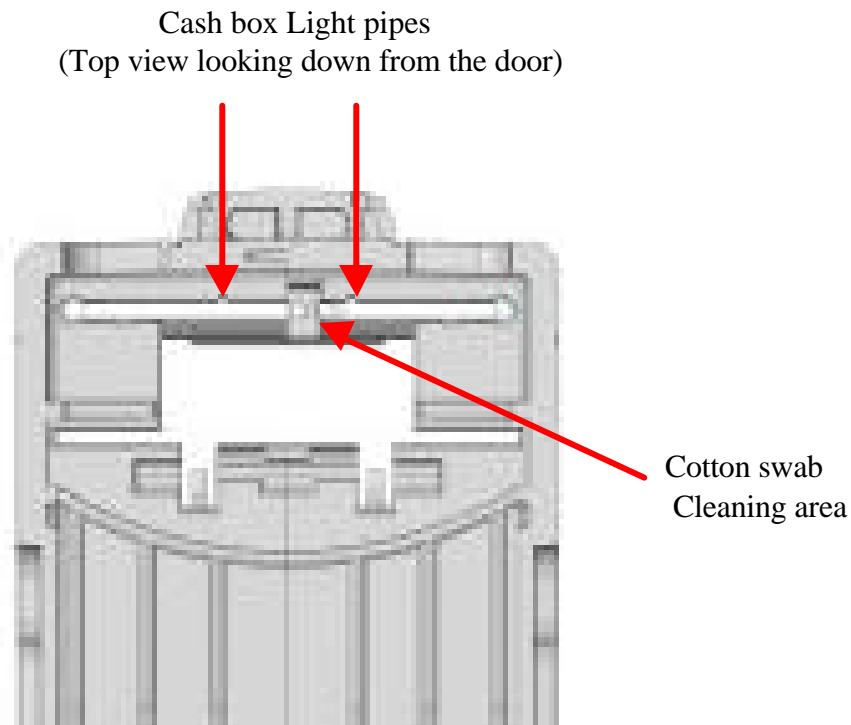

Fig.6
- Inspect the light pipes making sure that the light pipes line up and are forming for the most part a straight line. (see fig.6) The object here is to ensure that the light pipes are reasonably aligned.
- If the light pipes do need adjusting, then it is recommended to use a 6"-10" socket extension to press the light pipes back into place by placing it down through the door and onto the light pipes. (See fig.6 for the proper view).